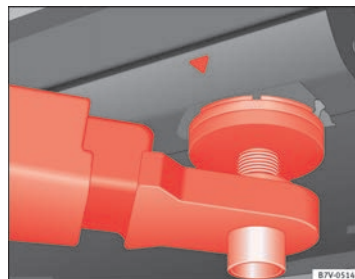
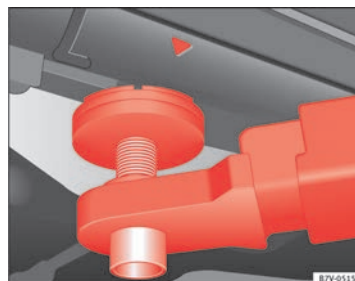

Fig. 162 Front jacking points for raising vehicle with lifting platform or jack
Fig. 163 Rear jacking points for raising vehicle with lifting platform or jack
Always use the jacking points indicated in the figures ⇒ Fig. 162 and ⇒ Fig. 163 when raising the vehicle. If the vehicle is not lifted at these points, it could be seriously damaged ⇒ ⚠ or lead to serious injury ⇒ ⚠. ▶
- Only use the jacking points indicated in the figures ⇒ Fig. 162 and ⇒ Fig. 163 when raising the vehicle. If the vehicle is not lifted at the indicated points, it may fall from the platform while the engine or gearbox is being dismantled, for example.